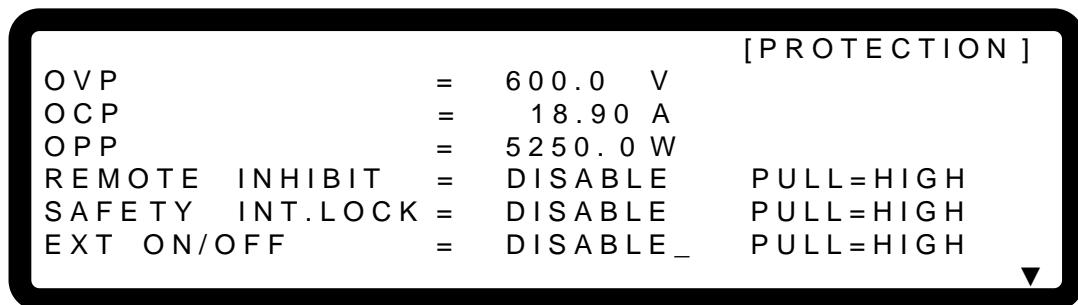

Figure 3-81
1. Use the “”, “” keys to move the cursor to the column to be set as shown in Figure 3-81.